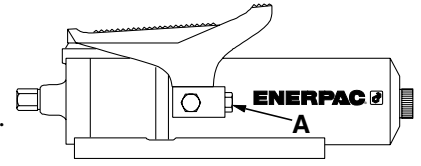

Figure 3
1. See Figure 3. Remove pipe plug from the female  $\frac{3}{8}$ " NPTF hydraulic swivel connector (A), and install the male end of a  $\frac{3}{8}$ " NPTF hydraulic fitting. The fitting can be a high flow coupler, hose, or gauge adaptor.